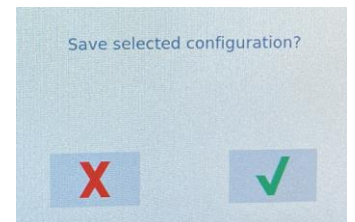

Figure 20
32. The controller displays **“Save selected configuration?”** Press the green checkmark button to continue (see Figure 20). If another display on the cabinet needs to be configured, repeat steps 21a-21k on that display.